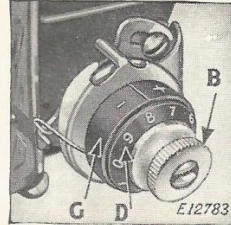
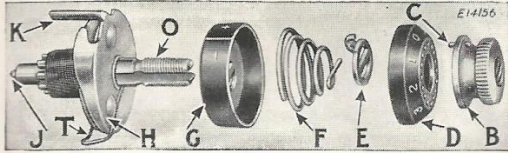

FIG. 19. NEEDLE THREAD TENSION
FIG. 20
**CAUTION**—It is important for the tension thumb nut (B, Fig. 19) to have a firm fit on tension stud (O, Fig. 20, page 20) to keep the numbered dial (D) in the position set for the required tension. To remedy a loose fit of the nut, remove parts B, D, E, F and G, Fig. 20, and slightly spread the stud, then re-assemble the parts as instructed on pages 20 to 23 inclusive.
The numbered dial (D, Fig. 19) is marked with numbers ranging from 0 to 9 which indicate different degrees of tension that can be produced. The numbers do not denote a particular size of thread. By noting the number which is opposite the center line between the plus and minus signs, on the indicator (G) when set for a satisfactory tension on the work being stitched, the number can be readily reverted to when a change is made in the tension or size of thread.
**To increase the tension**, turn the thumb nut (B) over to the right until the desired number on the numbered dial (D) is opposite the center line, the highest numbers denoting increased tension.
**To decrease the tension**, turn the thumb nut (B) over to the left, the lower numbers indicating less tension.
Turn the thumb nut (B, Fig. 20) to the left until it stops at "0" on the numbered dial, then press in
**Note.** It is not necessary to remove the stud (O, Fig. 20) from the machine arm in order to disassemble the thread tension. It is shown removed, in Fig. 20, only for the purpose of illustration.
First make sure that the tension releasing pin (J), only the end of which is shown in Fig. 20, is in place in the stud (O).
Guide the tension disc assembly onto the stud so that the extension (K, Fig. 20) of the thread guard enters the hole in the machine arm, and the tail (inside the coil) of the thread take-up spring enters one of the grooves in the stud. Next replace the indicator with the large open side facing the end of
the stud so that the plus and minus marks will be at the top (with the minus sign at the left) and hold the parts, thus assembled, against the shoulder of the stud. Then insert the tension spring (F, Fig. 20) in the indicator with the first (half) coil of the spring